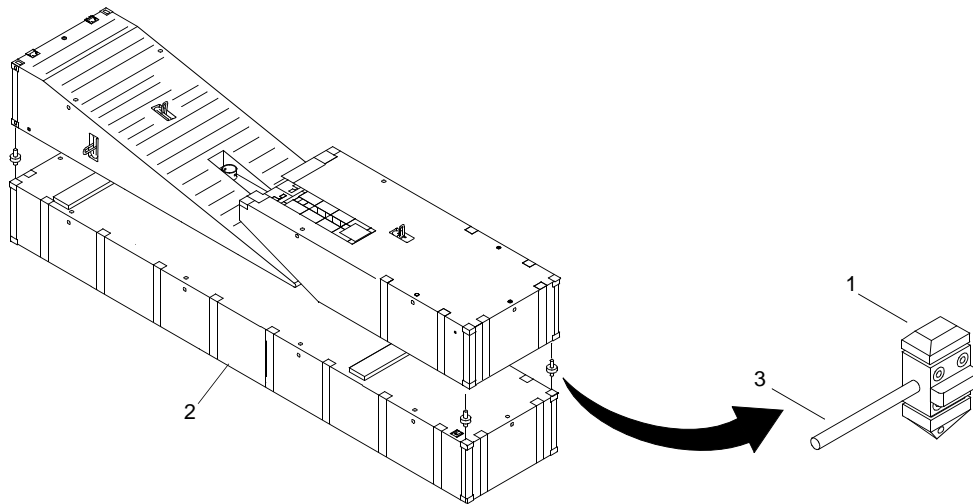

Figure 4. Combination Beach/Sea End Module Vertical Twistlocks
6. Place four vertical twistlocks (figure 4, item 1) in corners of center module (figure 4, item 2).
17. Lock four vertical twistlocks (figure 4, item 1) by rotating levers (figure 4, item 3).